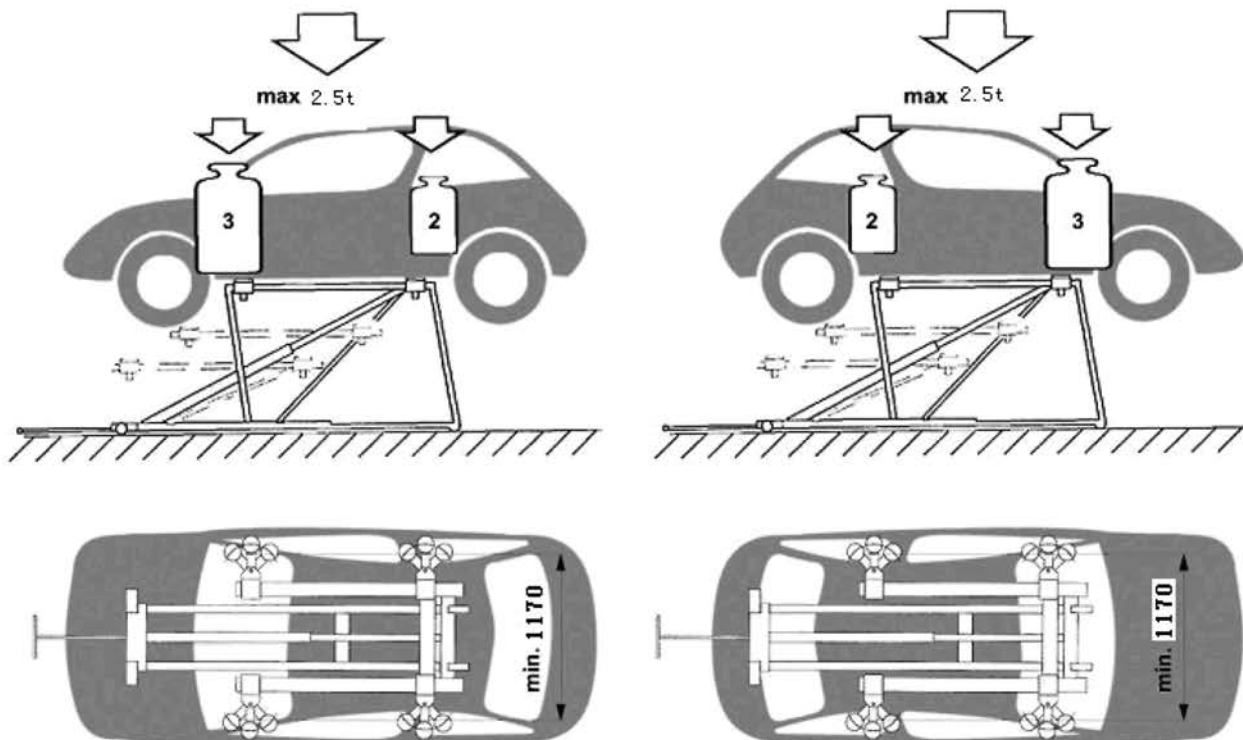

fig.3
- load division 2:3 or 3:2 (reversible) (fig.3)